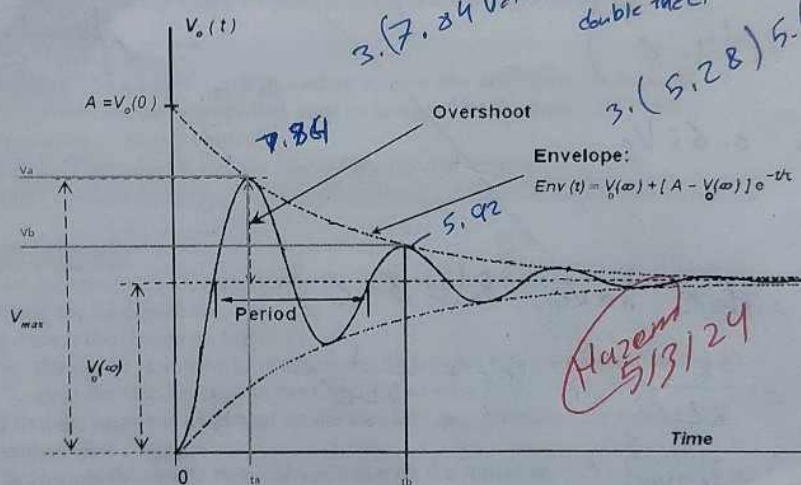

Figure 3.3
2. Use the cursor to measure the decay-envelope time constant ( $\tau$ ), the damping coefficient ( $\alpha$ ) and the damped frequency ( $\omega_d$ ) as shown in Figure 3.3.